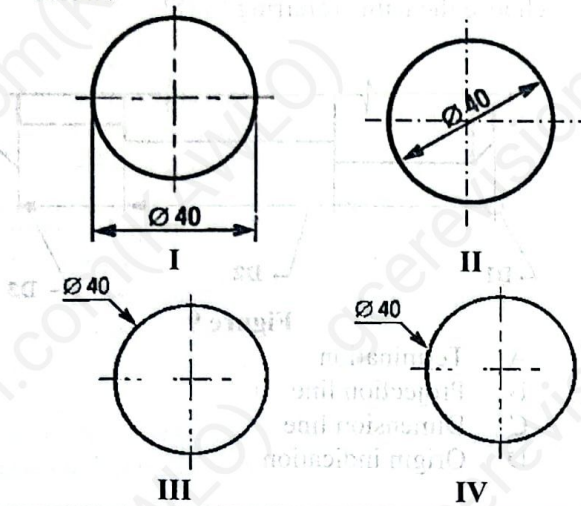

Figure 11
17. Which of the following does not match with the principles of dimensioning a diameter in figure 11 below?